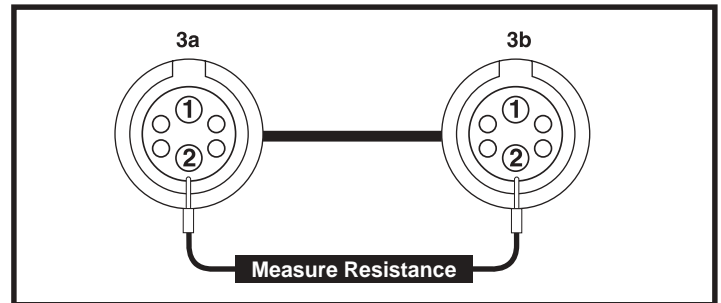

Figure 13. Connectors 3a and 3b
16. Measure resistance from pin 2 on connector 3a to pin 2 on connector 3b. **See figure 13.**
- *If your multimeter indicates less than 1 ohm for each test, then replace the Remote Plus joystick (1) and retest the system.*
- *If your multimeter indicates an open for either test, then replace the Redel cable (3) and retest the system.*